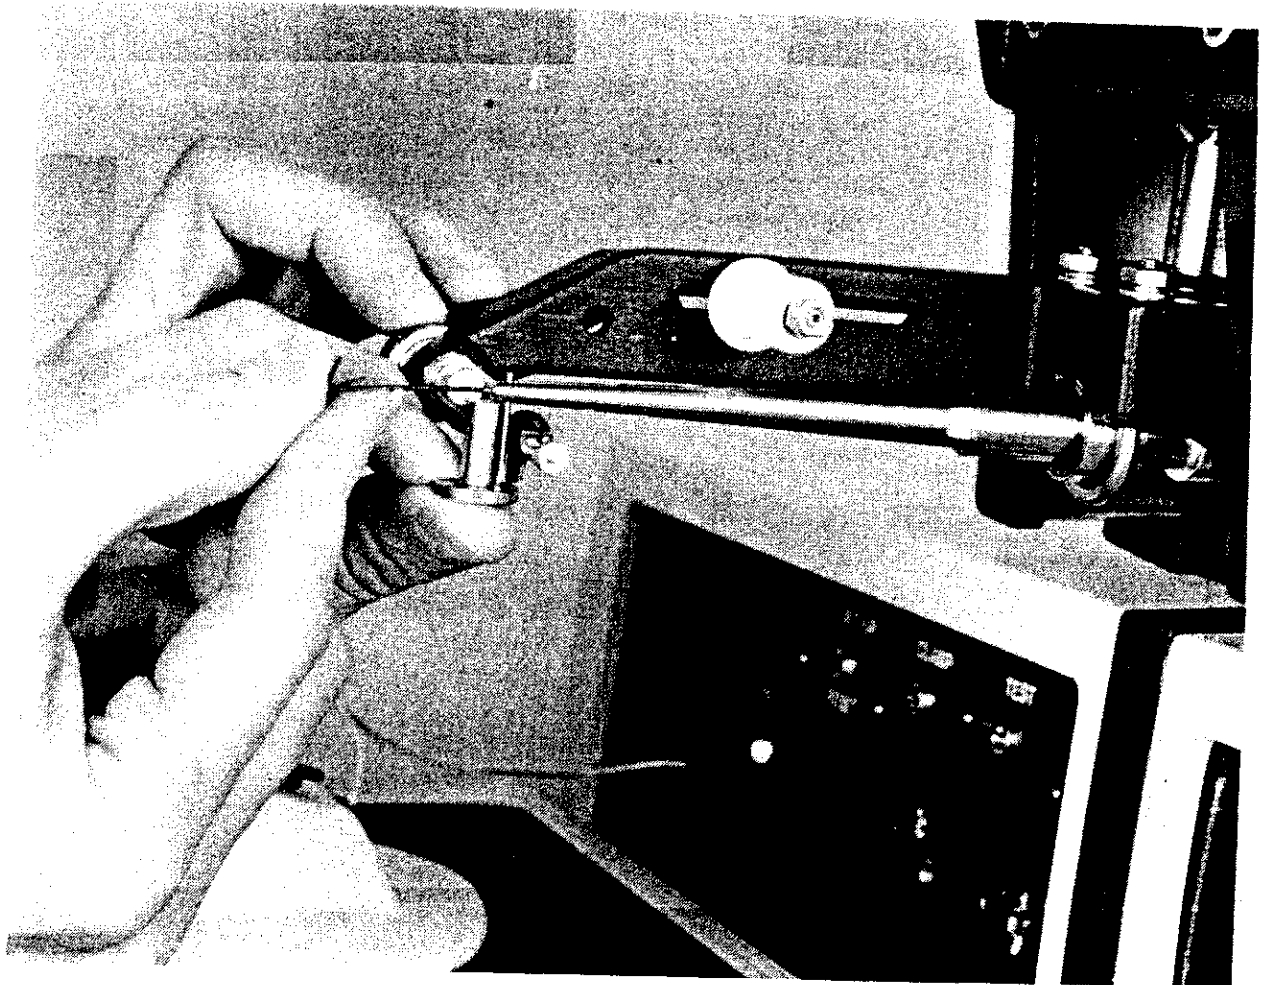

Figure 4-1 Wedge Insertion Using Setup Gauge
- Step 2 With the Setup Gauge positioned under the Wedge, loosen the set screw and gently tamp the Wedge down until its tip just rests on the Setup Gauge (see Figure 4-1), then tighten the Wedge set screw.